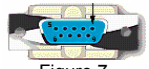

Figure 7
Step 2 Route the female connector (DB9F – see Figure 7) to the driver compartment and connect to the serial port located on the rear of the mobile computer.